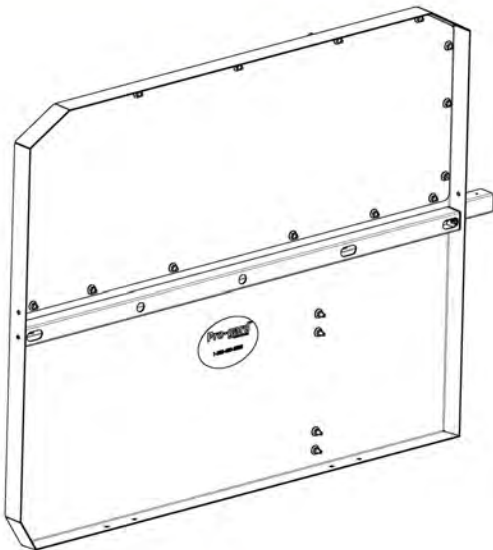

Figure 3a
3. Locate the Mother OSB Bar [3OSB472050], the Daughter OSB Bar [3OSB472051], (8) [3X611] 5/16-18X7/8" button head screws, and (8) [3X619] 5/16-18 whiz nuts. Loosely install the bars in the orientation shown in Figures 3a and 3b omitting the fastener that does not yet have a through hole as noted. The small side of the through holes in the bars goes against the barrier and the whiz nuts go on the back side of the barrier. Ensure the small holes for mounting the seat on the Daughter OSB Bar are facing upwards.